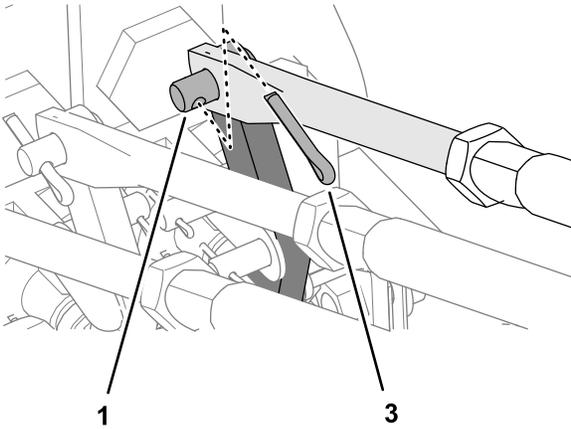

Figure 32
6. At the control valve, secure the control-rod link to the control lever with a cotter pin (Figure 32).